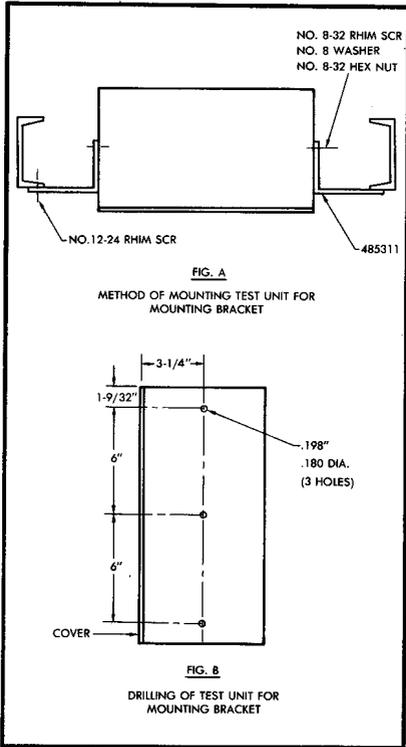

FIGURE 4. Wire Chief's Test Set, Type B, Mounting Details
4.01 Mounting Instructions: The test set can be mounted in a relay rack, on a wall, or on the end of the MDF. Figure 4 shows the typical methods of mounting the test set and the location of the required mounting holes to be drilled. When mounting on a wall, all four mounting holes in the corners of the base should be used. For MDF mounting, the installer must drill the cross channel for the two top mounting holes and use suitable screws for securing the test set. When the test set is to be mounted in a relay rack, the installer should drill the base as shown in FIG. B (sheet 3 of Figure 2), and the unit mounted on the brackets supplied as shown in FIG. A of Figure 4.